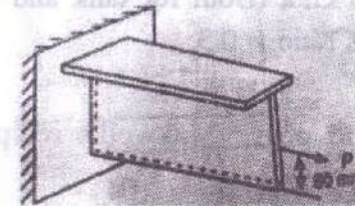

Figure 1
2. (a) Derive a relationship between Young's Modulus, Modulus of rigidity and the Poisson's ratio. (5)
- (b) Draw the Mohr's circle for a bi-axial stress system having two direct stresses of 30 MPa (tensile) and 20 MPa (compressive). Determine the magnitude and the direction of the resultant stresses on plane which make angle; (i) 25°, and (ii) 70° with the 30 MPa stress. (10)
3. (a) Derive the relationship between bending moment and shear force for a UDL beam. (5)
- (b) A simply supported beam of 10 m length carries a uniformly distributed load throughout its length. The supports of the beam are to be 6 m apart. Determine the position of the supports with respect to the ends so that the bending moment on the beam is the least possible. (10)
4. A bar of T-section symmetrical about the vertical center line has the flange 160 mm wide and 20 mm thick and the web 120 mm deep and 20 mm thick as shown in Figure 1. The member is acted upon by a longitudinal pull P which acts on the section at a point on the vertical central line and is 50 mm from the bottom edge of web. Determine the magnitude of the maximum stresses on the section when the pull P is transmitted. (15)